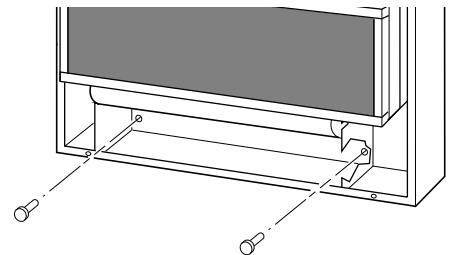

Figure 15 - Installing Bottom Mounting Screws
1. Locate two bottom mounting holes. These holes are near bottom on back panel of heater (see Figure 15).